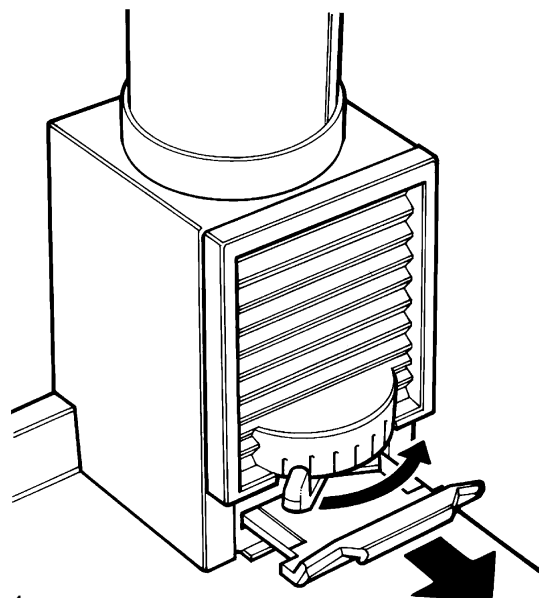

Fig. 4
7. Open flue chamber to maximum (Fig. 4).
6. Open flue chamber damper to maximum (Fig. 4).